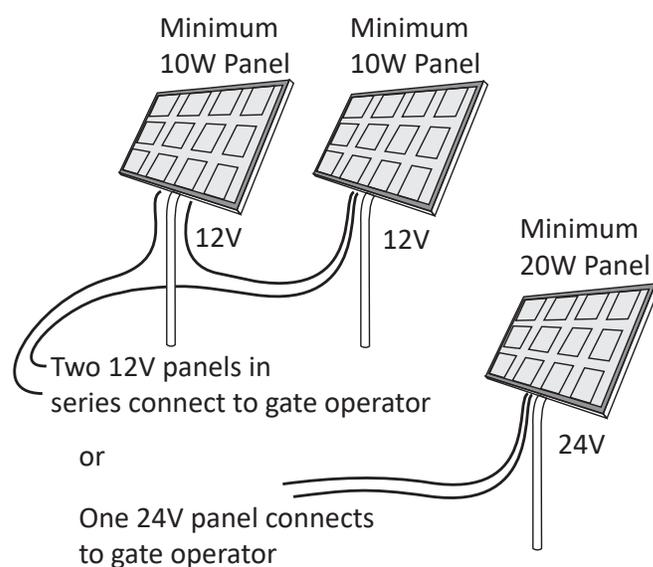
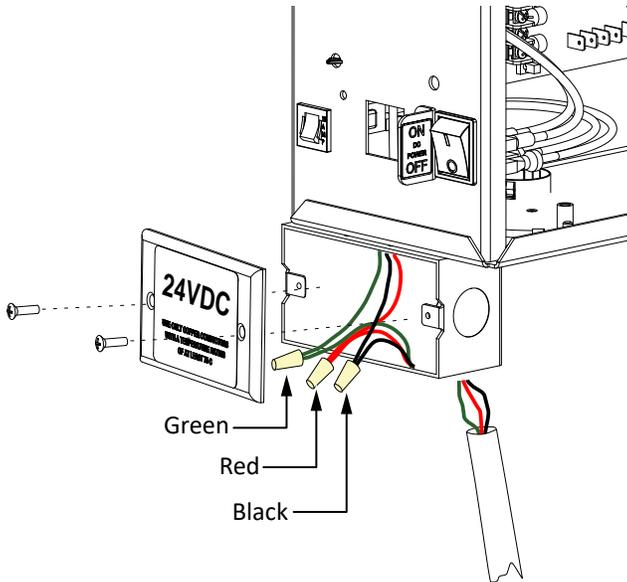

Figure 24. Solar Panels
Figure 25. Solar Panels Wiring Connection
- 20WATT solar panel system (minimum requirement). See Figure 24 and "Figure 25. Solar Panels Wiring Connection" on page 43.
1. Use 14 gauge wire or larger to connect the solar panel(s) within 100ft of the operator. Check NEC and local regulations if other distances apply. See Figure 24.
2. Use one 24VDC solar panel or two 12VDC solar panels in series with a total capacity of at least 20W. Mount them according to the manufacturer's installation instructions. See Figure 24.
3. Make sure both DC power switches on the SlideSmart control box are in the OFF position, and then remove the two Phillips head screws that secure the 24VDC cover to the junction box. See Figure 25.
4. Wire nut or crimp bond the solar panel wires to the black and red input wires. See Figure 25.
5. Wire nut or crimp bond the equipment ground wire to the green ground wire in the junction box. See Figure 25.